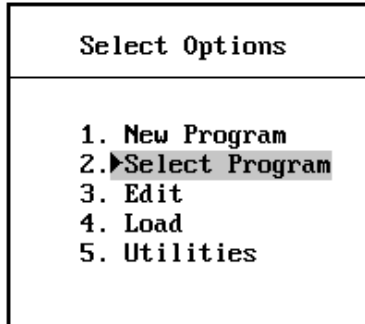

Figure 3-5, Selecting an Existing Program
1. From **Menu E, Select Options Menu**, highlight **Select Program** and press **ENTER**. Refer to **Figure 3-5**.